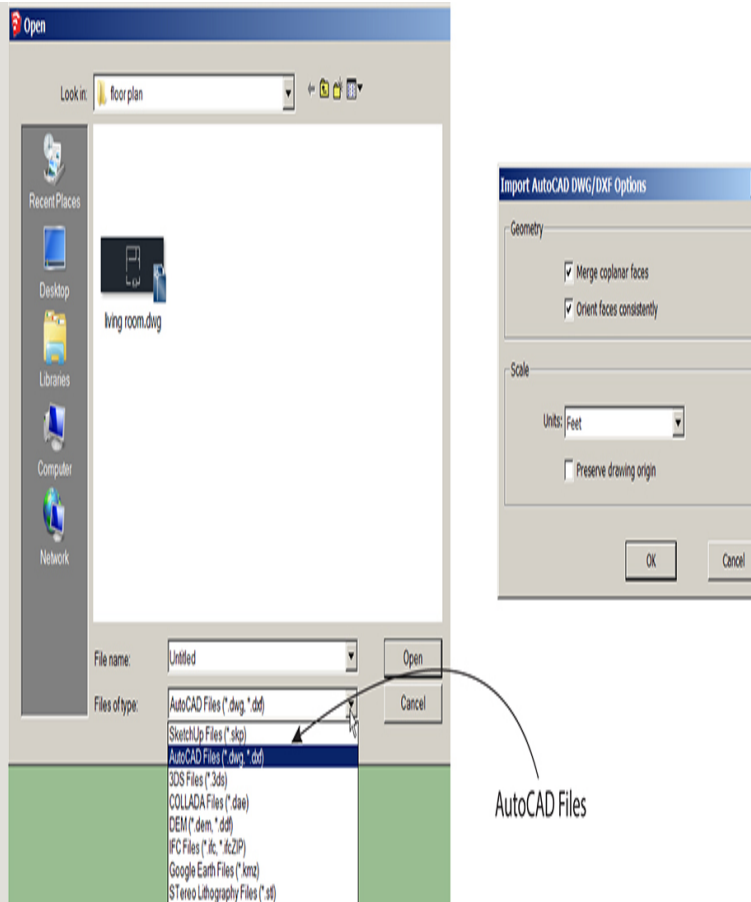

Figure 4-71 Navigate to the AutoCAD file and check the appropriate boxes.
1. Import the AutoCAD file (Figure 4-71). Click File > Import, and locate it. Make sure that AutoCAD Files is visible in the Files of Type field at the bottom. Then click Options, and check the two upper boxes. The top two boxes tell SketchUp to treat the AutoCAD file like a SketchUp file. Set the Units field to the AutoCAD plan's units. For example, if the plan's units are feet, set it to feet. This is important! If the AutoCAD plan's scale and this box's scale are different, scaling the plan after import will be difficult. If you uncheck the Preserve Drawing Origin box, SketchUp can place the imported AutoCAD plan at the origin. If it imports far from the origin, clipping may occur, a glitch that causes part of the plan to disappear.